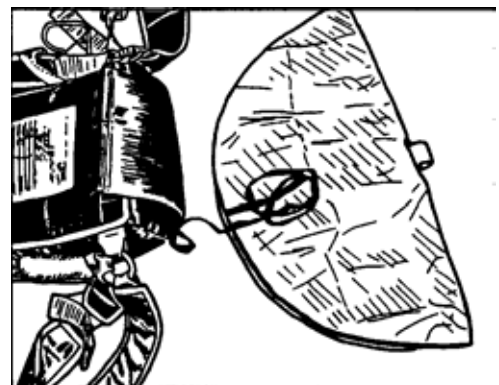

Figure 2
Step 2 Fold the pilotcute in half and stow the excess bridle near the outer edge of the pilotchute. *Figure 2*